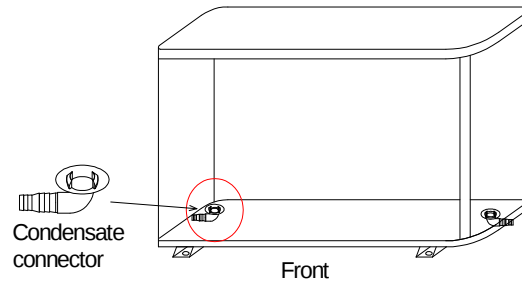

fig 2
- b. Connect the condensate connectors to the draining hole on the bottom sheet. (Fig 2)